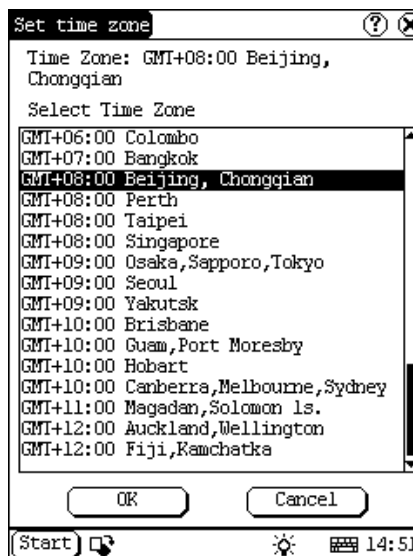

Figure 5-39
- 1) In the Date/Time interface, click [Set Time zone] button to open the Set Zone interface as shown in Figure 5-39.